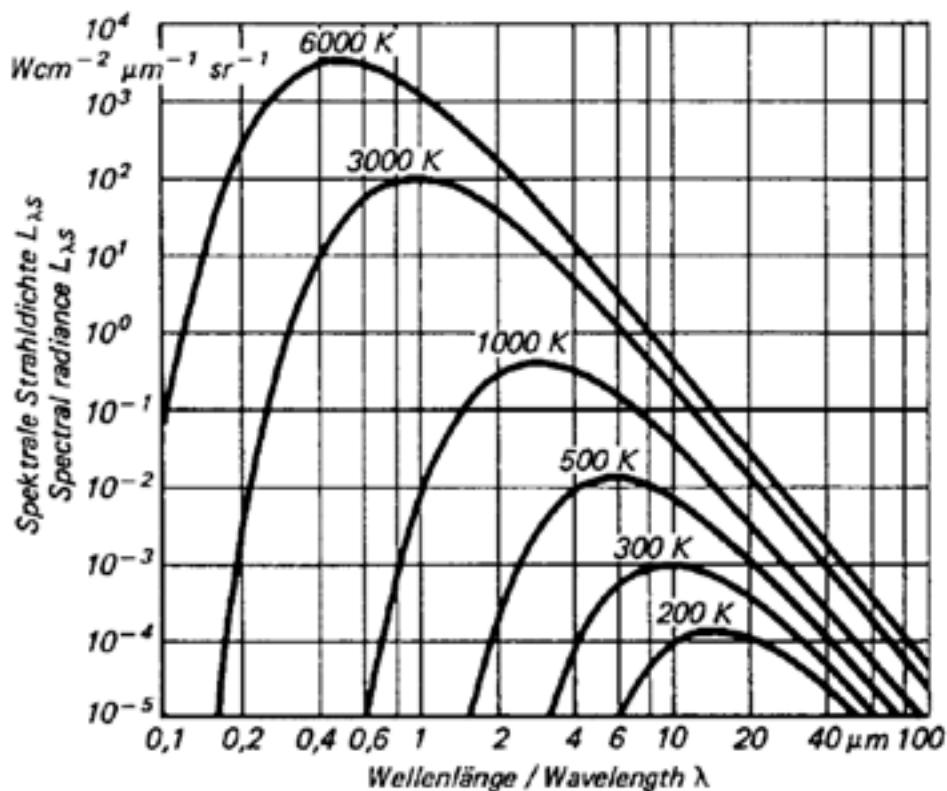
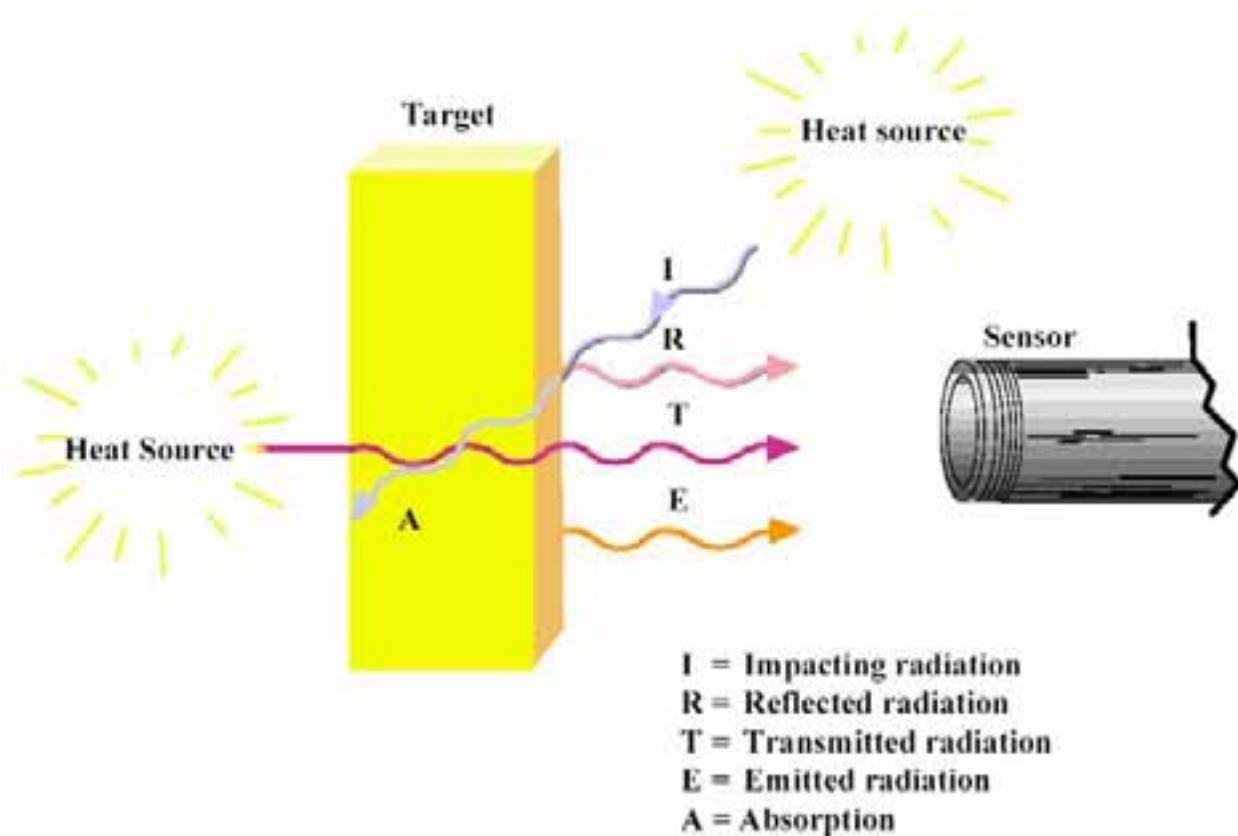

Fig. 3 Radiation characteristics of a blackbody in relation to its temperature. /3/
Fig. 4 In addition to the radiation emitted from the target, the sensor also receives reflected radiation and can also let radiation through.
Fig. 3 shows the typical radiation of a body at different temperatures. As indicated, bodies at high temperatures still emit a small amount of visible radiation. This is why everyone can see objects at very high temperatures (above 600°C) glowing somewhere from red to white. Experienced steelworkers can even estimate temperature quite accurately from the color. The classic disappearing filament pyrometer was used in the steel and iron industries from 1930 on. The invisible part of the spectrum, however, contains up to 100,000 times more energy. Infrared measuring technology builds on this. It can likewise be seen in Fig. 3 that the radiation maximum move toward ever-shorter wavelengths as the target temperature rises, and that the curves of a body do not overlap at different temperatures. The radiant energy in the entire wavelength range (area beneath each curve) increases to the power of 4 of the temperature. These relationships were recognized by Stefan and Boltzmann in 1879 and illustrate that an unambiguous temperature can be measured from the radiation signal. /1/, /3/, /4/ and /5/.
Looking at Fig. 3, then, the goal should be to set up the IR thermometer for the widest range possible in order to gain the most energy (corresponding to the area below a curve) or signal from the target. There are, however, some instances in which this is not always advantageous. For instance, in Fig. 3, the intensity of radiation increases at 2  $\mu\text{m}$  - much more when the temperature increases than at 10  $\mu\text{m}$ . The greater the radiance difference per temperature difference, the more accurately the IR thermometer works. In accordance with the displacement of the radiation maximum to smaller wavelengths with increasing temperature (Wien's Displacement Law), the wavelength range behaves in accordance with the measuring temperature range of the pyrometer. At low temperatures, an IR thermometer working at 2  $\mu\text{m}$  would stop at temperatures below 600°C, seeing little to nothing since there is too little radiation energy. A further reason for having devices for different wavelength ranges is the emissivity pattern of some materials known as non-gray bodies (glass, metals, and plastic films). Fig. 3 shows the ideal - the so-called "blackbody". Many bodies, however, emit less radiation at the same temperature. The relation between the real emissive power and that of a blackbody is known as emissivity  $\epsilon$  (epsilon) and can be a maximum of 1 (body corresponds to the ideal blackbody) and a minimum of 0. Bodies with emissivity less than 1 are called gray bodies. Bodies where emissivity is also dependent on temperature and wavelength are called non-gray bodies. Furthermore, the sum of emission is composed of absorption (A), reflection (R) and transmission (T) and is equal to one. (See Equation 1 and Fig. 4).